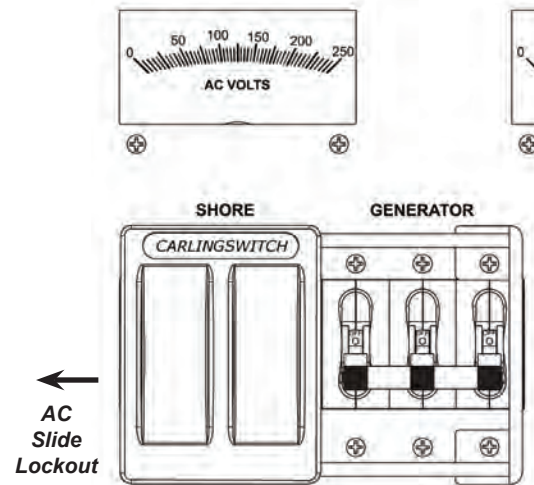

Figure H23: 240V AC Cabin Panel - Main Breakers
2. The breaker switches for the SHORE and GENERATOR AC system must be placed in the OFF position and the AC slide lockout must be moved to cover the SHORE breakers switches. See Figure H23.